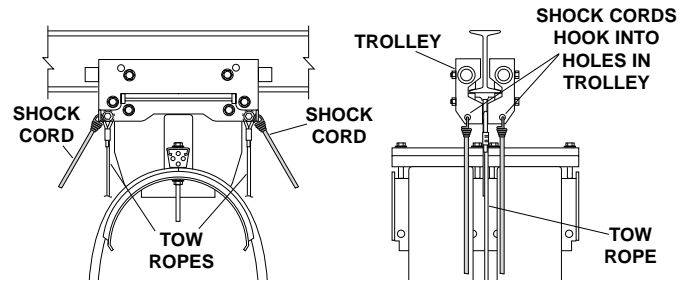

FIGURE 22—SHOCK CORD INSTALLATION
- 1. Mount shock cords as shown in Figure 22.